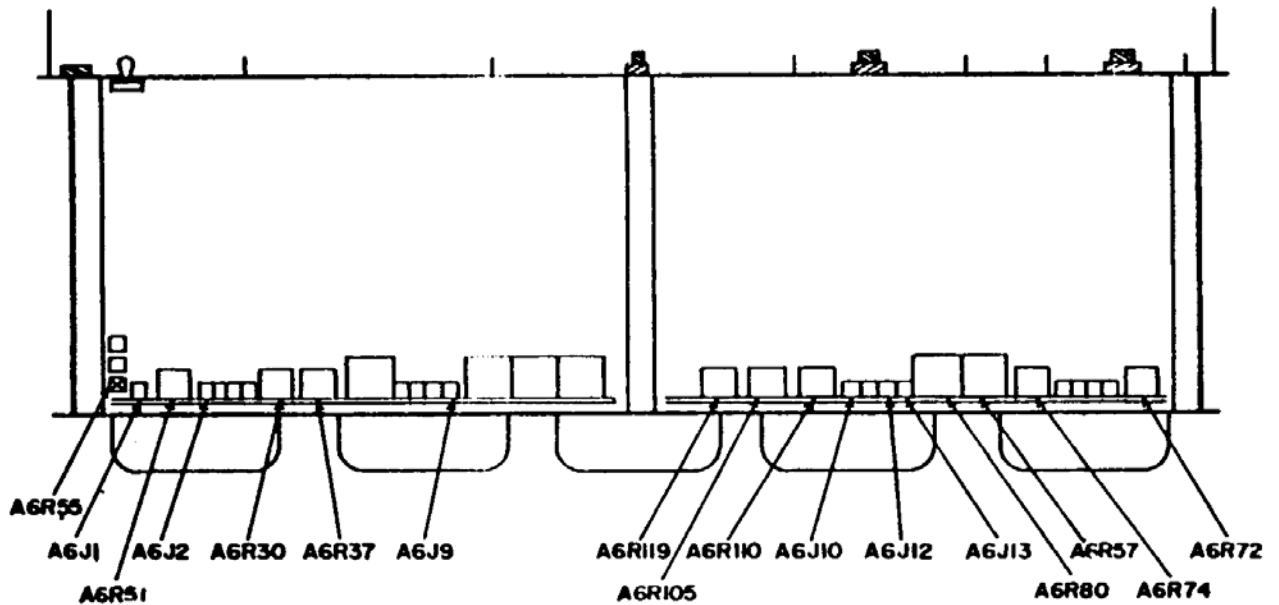
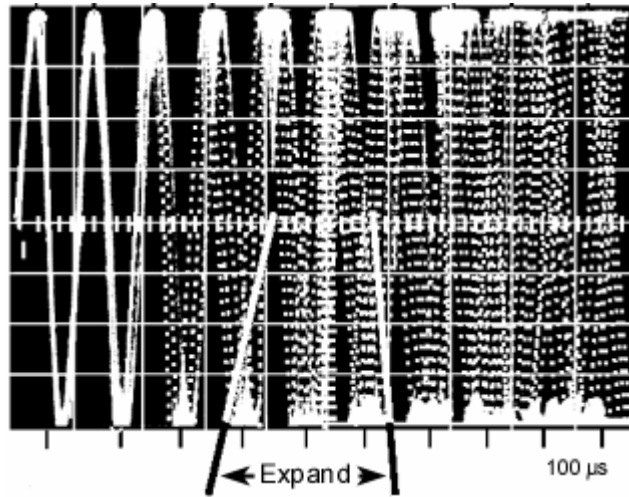
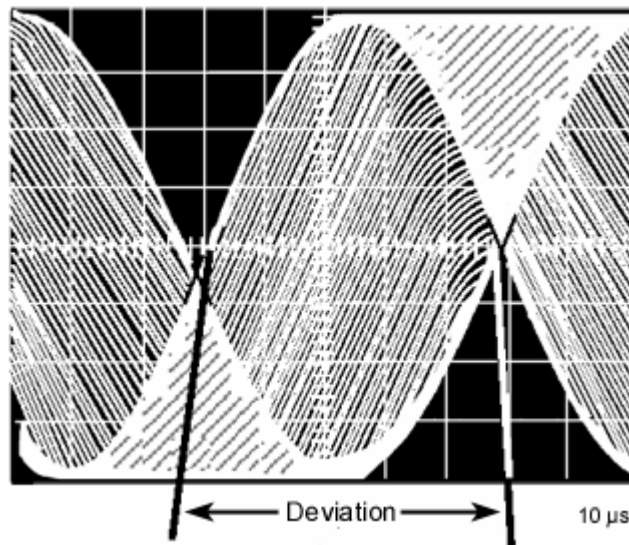

Figure 3. Test instrument - top view
Figure 5. 9960 Hz FM Deviation Display.
Figure 6. 9960 Hz FM Deviation Display with Jitter expanded.
- (1) Connect frequency counter to TI **J3**. Short A6J9 (fig. 3) to ground.
(2) Set **VOR PWR** switch to **ON** and **VOR 108.00-108.05** switch to **108.00**. If frequency counter does not indicate between 107.9973 and 108.0027 MHz, perform **b(1)** below.
(3) Set **VOR 108.00-108.05** switch to **108.05**. If frequency counter does not indicate between 108.0473 and 108.0527 MHz, perform **b(2)** below.
(4) Set **VOR PWR** switch to **OFF** and **LOC PWR** switch to **ON**.
(5) Set **LOC 108.10-108.15** switch to **108.10**. If frequency counter does not indicate between 108.0973 and 108.1027 MHz, perform **b(3)** below.
(6) Set **LOC 108.10-108.15** switch to **108.15**. If frequency counter does not indicate between 108.1473 and 108.1527 MHz, perform **b(4)** below.
(7) Remove short from A6J9 (fig. 3) and connect to A6J1 (fig. 3). Set **LOC PWR** switch to **OFF** and **GLIDE SLOPE PWR** switch to **ON**.
(8) Set **GLIDE SLOPE 334.70-334.55 (334.70-334.10)** switch to **334.70**. If frequency counter does not indicate between 334.69164 and 334.70836 MHz, perform **b(5)** below.
(9) Set **GLIDE SLOPE 334.70-334.55 (334.70-334.10)** switch to **334.55 (334.10)**. If frequency counter does not indicate between 334.54164 and 334.55836 (334.0916 and 334.1084) MHz, perform **b(6)** below.
(10) Set **GLIDE SLOPE PWR** switch to **OFF** and remove short from A6J1.
(11) Remove connection from **J3** and connect to **J1**.
(12) Set **MKR BCN PWR** switch to **ON**. If frequency counter does not indicate between 74.99625 and 75.00375 MHz, perform **b(7)** below.
(1) Connect power meter to TI **J1**. If power meter does not indicate greater than -20 dBm, perform b(1) below.
(2) Set **MKR BCN PWR** switch to **OFF** and **VOR PWR** switch to **ON**.
(3) Short A6J9 (fig. 3) to ground.
(4) Move power meter connection from **J1** to **J3**. If power meter does not indicate greater than -10 dBm, perform b(2) below.
(5) Set **VOR PWR** switch to **OFF** and **LOC PWR** switch to **ON**.
(6) Remove short from A6J9 and connect to A6J2 (fig. 3). If power meter does not indicate greater than -10 dbm, perform b(3) below.
(7) Set **LOC PWR** switch to **OFF** and **GLIDE SLOPE PWR** switch to **ON**.
(8) Remove short from A6J2 and connect to A6J1 (fig. 3). If power meter does not indicate greater than -20 dbm, perform b(4) below.
(9) Remove short from A6J1.
(1) Set **GLIDE SLOPE PWR** switch to **OFF** and **VOR PWR** switch to **ON**. If **VAR** light is illuminated, press light to extinguish.
(2) Connect measuring receiver power sensor module to TI **J3**. Position measuring receiver controls to measure **AM**.
(3) Press and hold **VOR 30VAR** and **30REF** pushbuttons. If measuring receiver does not indicate between 27 and 33 percent, perform **b(1)** below. Release **VOR 30VAR** and **30REF** pushbuttons.
(4) Short A6J12 (fig. 3) to ground, using lead and adapters. If measuring receiver does not indicate an amplitude modulation between 27 and 33 percent, repeat **b(1)** below for best intolerance compromise between **a(3)** and (4).
(5) Set **VOR 1020HZ** switch to **ON**. Press and hold **VOR 30VAR** pushbutton. Measuring receiver will indicate an amplitude modulation between 5 and 15 percent. Release **VOR 30VAR** pushbutton.
(6) Connect audio analyzer to measuring receiver modulation output.
(7) Press and hold **VOR 30VAR** pushbutton. Measure distortion. Audio analyzer will indicate less than 10 percent. Release **VOR 30VAR** pushbutton.
(8) Set **VOR 1020HZ** switch to **OFF**.
(9) Measure distortion. Audio analyzer will indicate less than 5 percent.